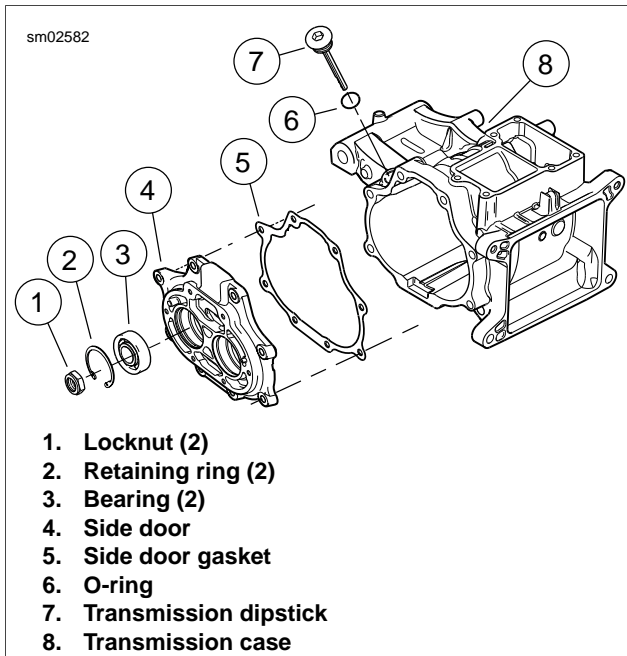

Figure 7-26. Side Door Bearings
1. See Figure 7-26. Remove the retaining rings (2).